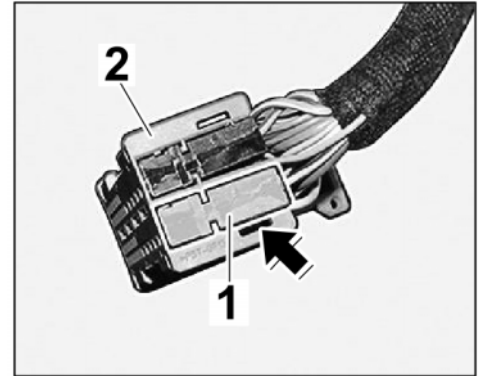

Figure 16
2.4.2 Open the locking mechanism (⇒ *Figure 16 -Arrow-*) and push the grey plug socket out of the black plug carrier. ⇒ *Figure 16*